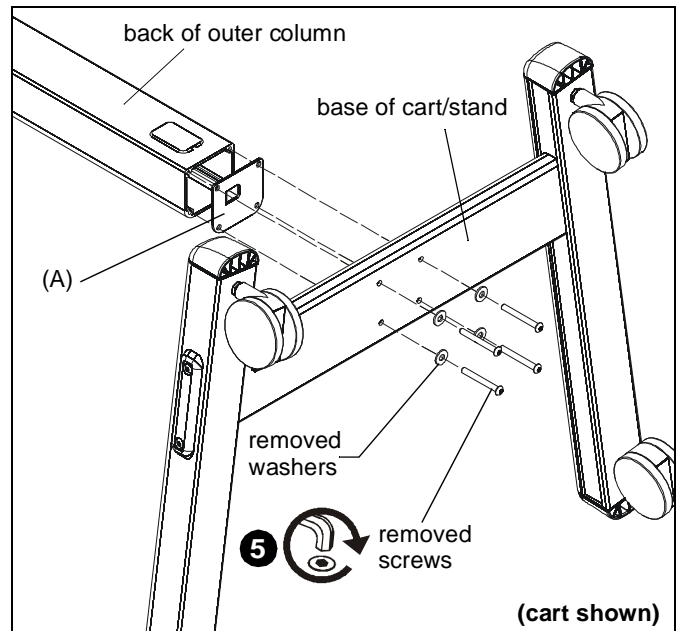

Figure 15
5. Install four button head cap screws and washers (removed at beginning of assembly/installation) through holes in cart/stand, gas spring assembly base (A) and into outer column of cart/stand. (See Figure 15)